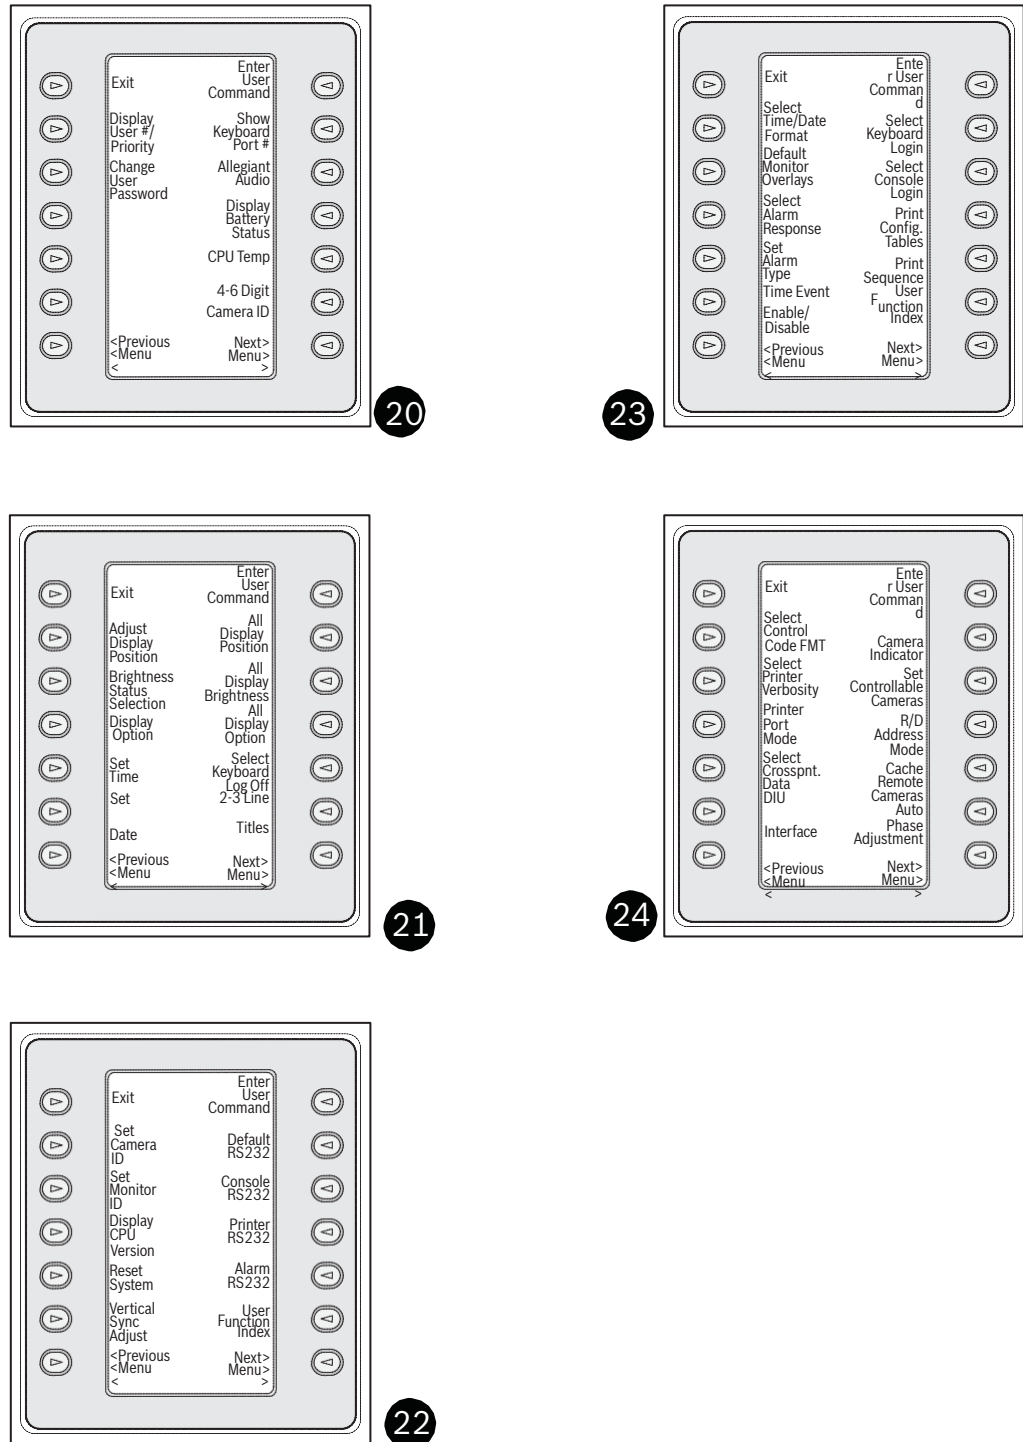

Figure 2.11 Allegiant User Function Menus
User Functions	<p>Accesses a series of five menus allowing single-key selection of all available Allegiant user functions. Each of the five menus contain the following common softkeys:</p> <ul style="list-style-type: none"> – Exit (upper left): Completes any pending user function and exits to the Allegiant Main Control menu. – Previous Menu (lower left): Displays the previous menu in this series of five. If the current display is the first menu, Previous Menu displays the last menu. – Enter User Command (upper right): This function alleviates scrolling through menus. When pressed, this key prompts for the two-digit Allegiant User Command number. Familiarity with Allegiant User Commands and the two-digit command number is required. Refer to Figure 2.11 on Page 15 for a cross-reference of all Allegiant User Commands and their respective two (2) digit function numbers. These function numbers can also be found in your Allegiant User Manual or on the Allegiant Quick Reference card. – Next Menu (lower right): Displays the next menu in this series of five. If the current display is the last menu, Next Menu displays the first menu. Figure 2.11 on Page 15 shows the menu location and the associated 2 digit cross reference. For details on the functionality of these user functions, refer to the Allegiant Matrix Switcher User Manual. <p>NOTE: Some User Functions are applicable only to specific Allegiant models or to newer versions of Allegiant CPU operating firmware. If an attempt to use a User Function results in an error message, please consult your Allegiant system manual to determine if the function is supported in your particular model.</p>